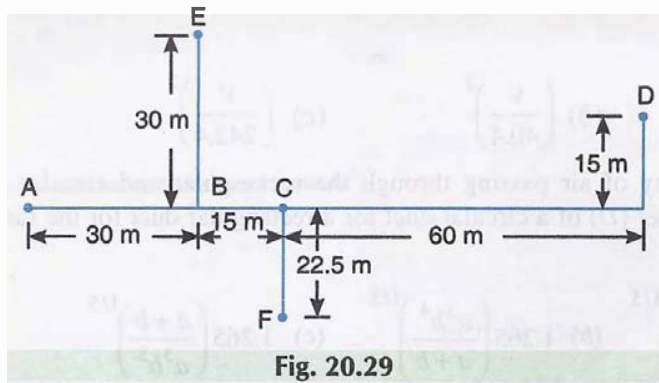

Fig. 20.29
9. An air duct system is provided as shown in Fig. 20.29. The standard air enters at point A with a static pressure of 12 mm of water.